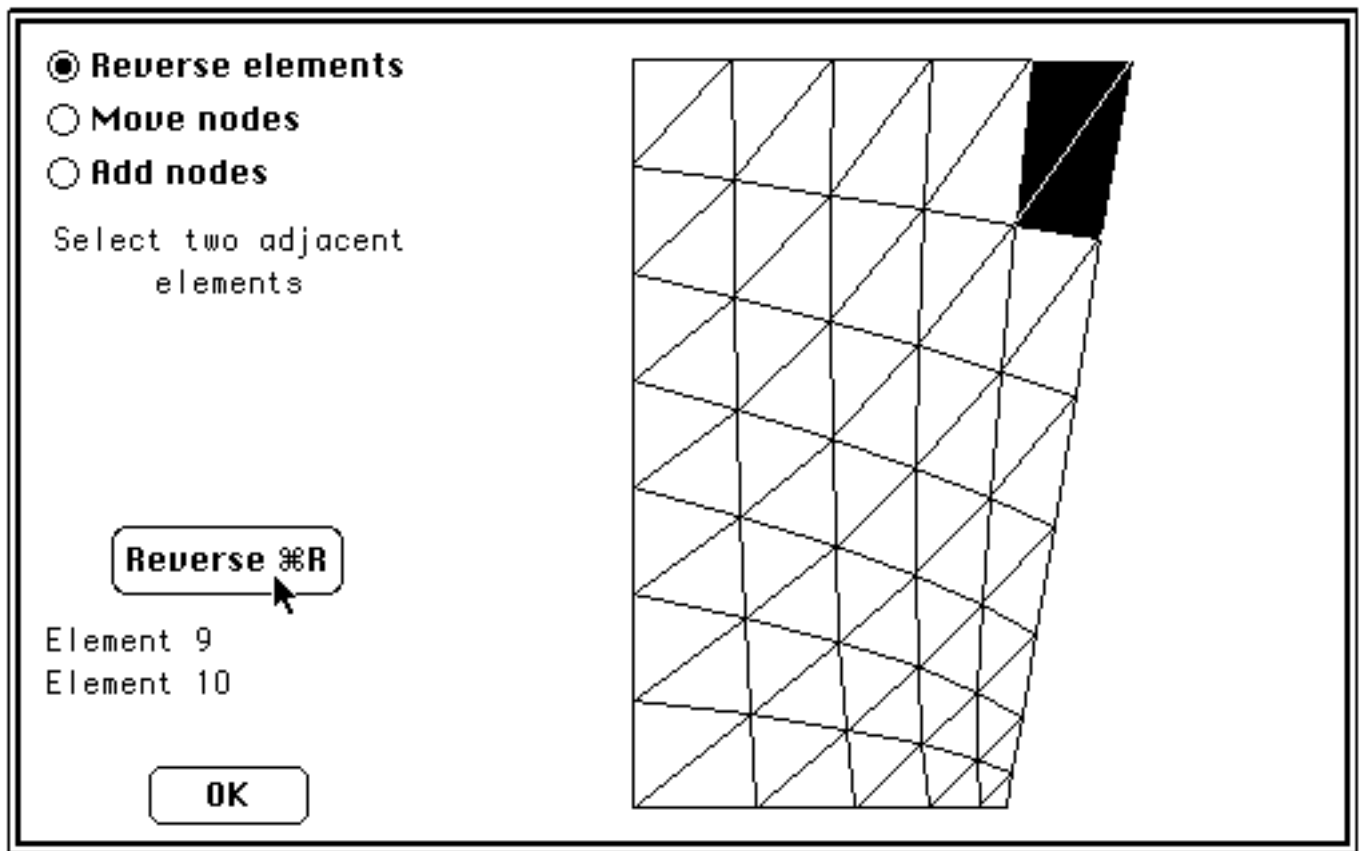

Fig 3.31 Reverse elements
- Select (the default) Reverse elements (Fig 3.31). Then,